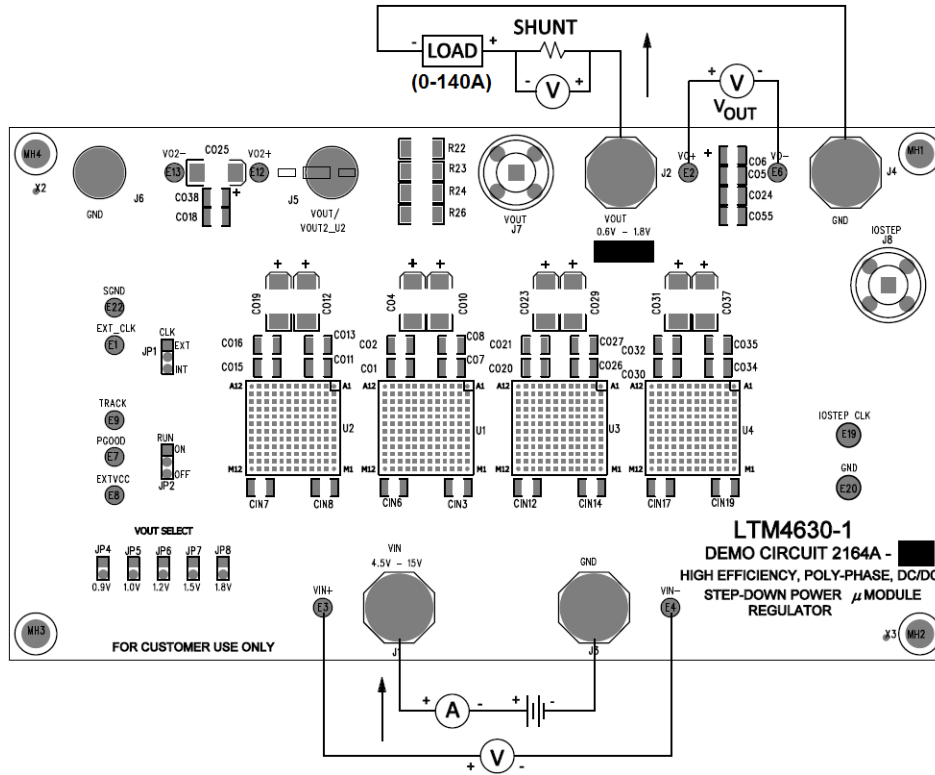

Figure 2. Test Setup of DC2164A-C
Demonstration circuit 2164A-C is easy to set up to evaluate the performance of PolyPhase operation of the LTM4630EY-1. Due to the high input/output current, user should select the proper input supply/load/cable which can sustain the full load operation. It's recommended to pull load current from J2 and J4. The load current pulled from J5 and J6 shouldn't exceed 18A. Please refer to Figure 2 for proper measurement setup and follow the procedure below:
- With power off, connect the input power supply, load and meters as shown in Figure 2. Preset the load to 0A and V_{IN} supply to 12V.